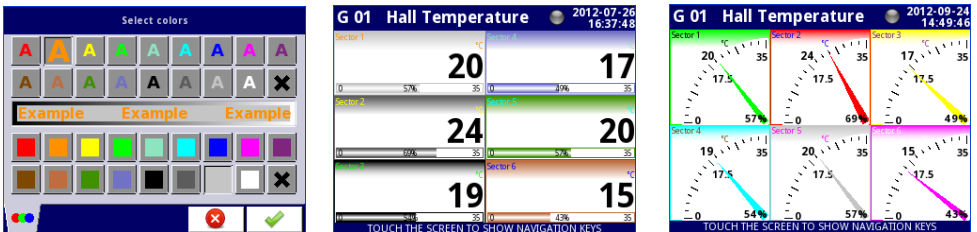

Fig. 7.121. Style color select screen and examples of views with changed styles
- **Style** – defines color which will be used to draw logical channel selected in this **Slot**. User can specify font color in channel (except value color) and drawing color of all elements connected with channel visualisation (see Fig. 7.121). Using black X buttons user can return to default settings.